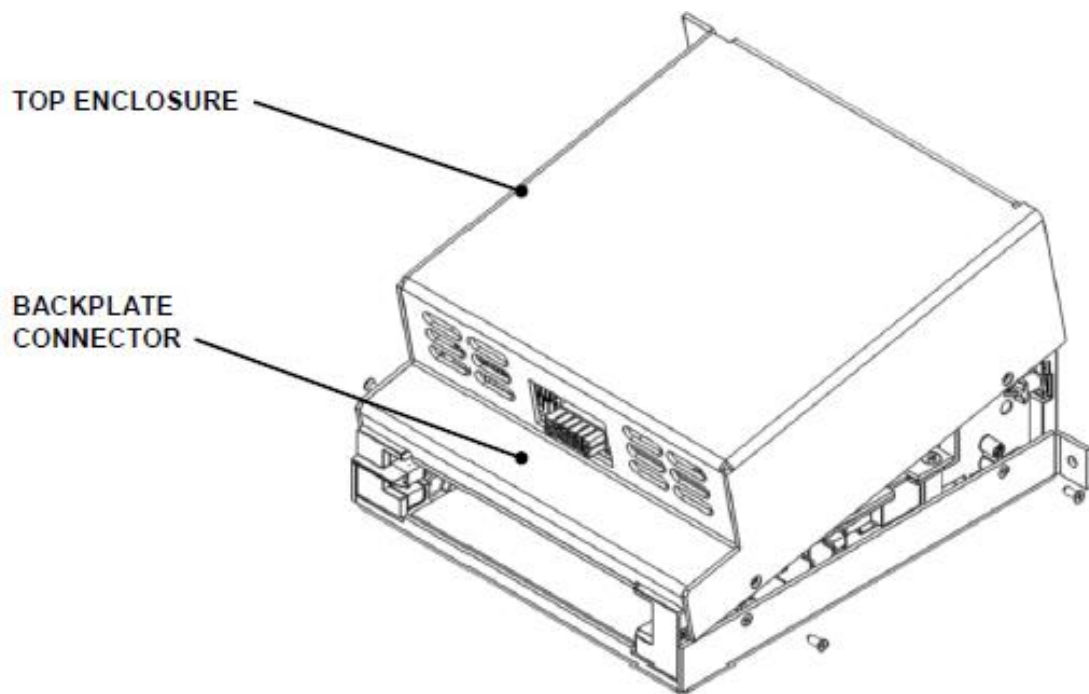

Figure J-3: Replacing the Top Cover.
- **Note:** When replacing the cover, tilt the top enclosure initially as shown in Figure J-3 in order to clear the PCB backplane.